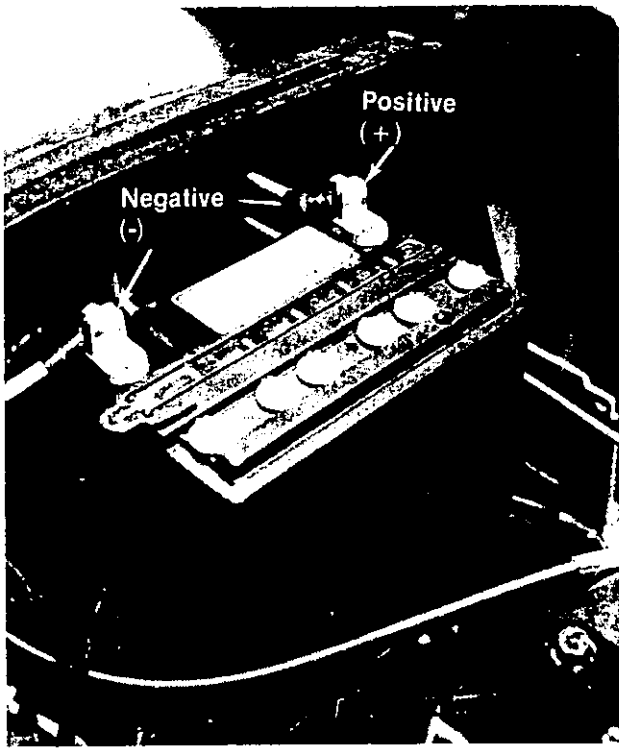

FIGURE 1.
1. Place the battery in the battery case with the terminals to the rear. (See figure 1.)